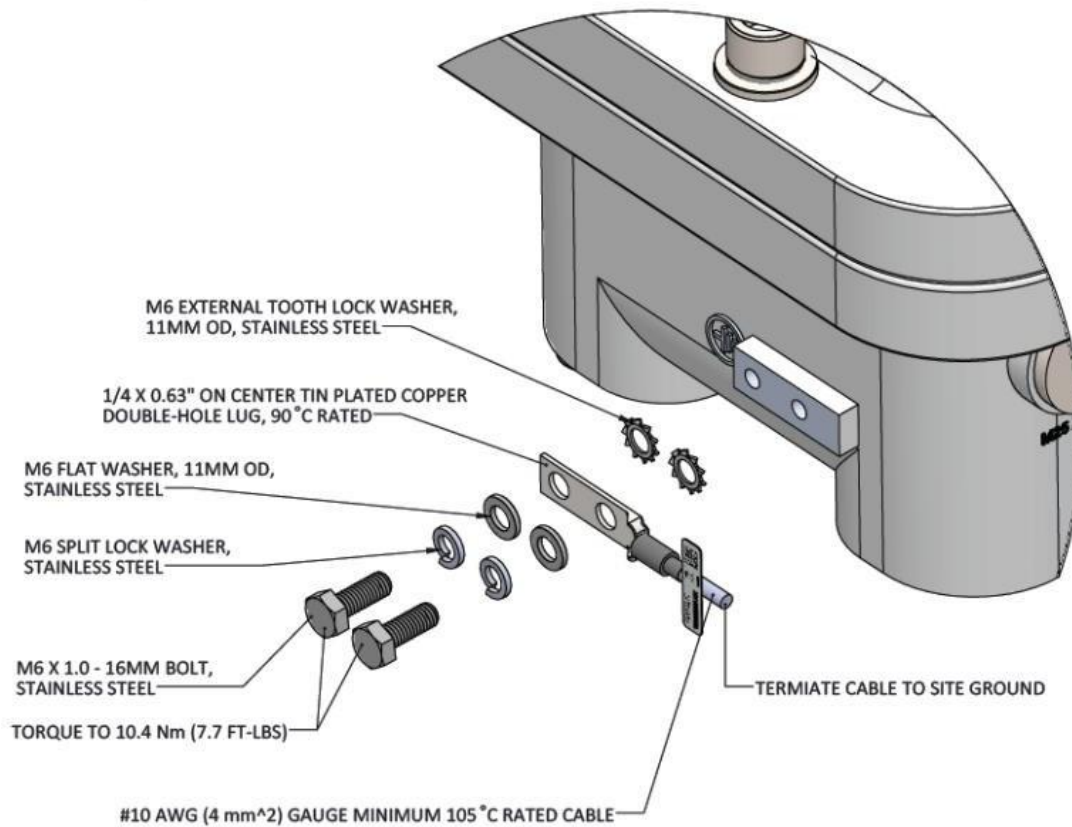

Figure 9: KONA Macro Ex Gateway PE Ground Installation
4. Install the ground cable through its double hole lug onto the chassis ground point using the two supplied M6 x 1.0 – 16 mm bolts with flat and star lock washers, torqued to 10.4 Nm (7.7 ft·lbs) (see Figure 9).